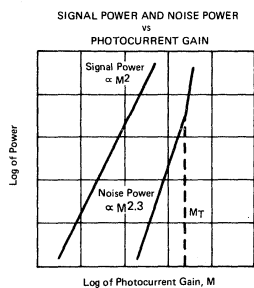

FIGURE 1
3. Gain  $M_T$  is measured at the reverse voltage at which the noise deviates from the theoretical linear characteristic. See Figure 1. Radiant flux is as required to give a photocurrent of 0.1 nA rms at  $V_R = 40 V$ .